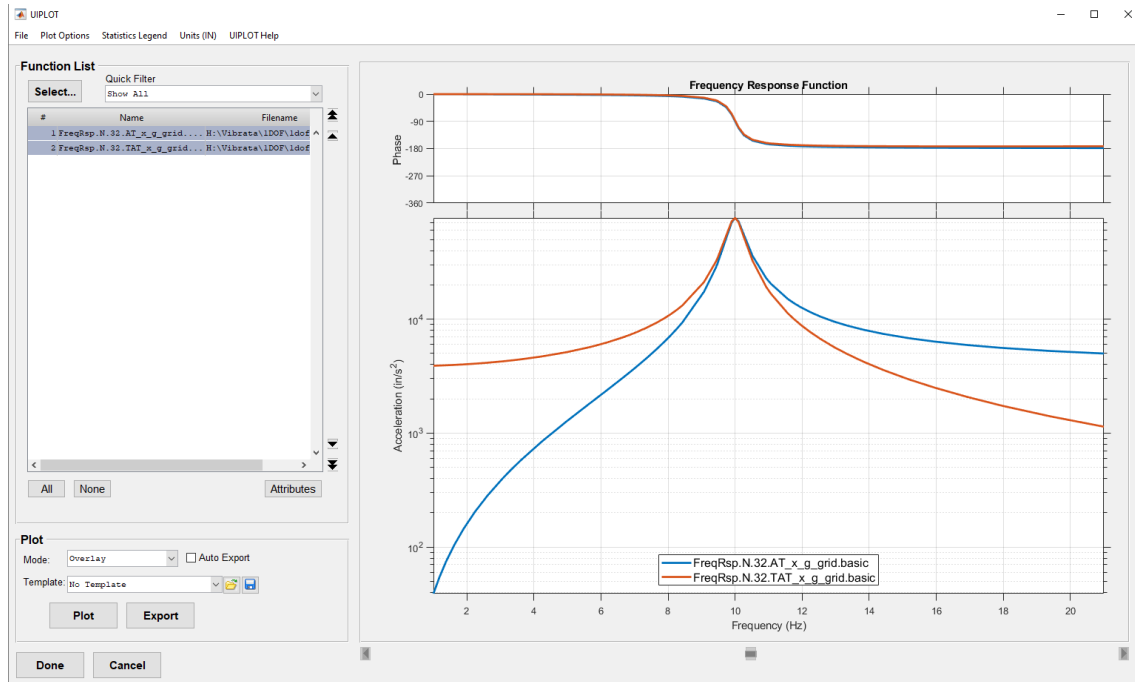

Figure 4-17. Select and plot both requested acceleration responses at once.
- c. In the *UIPLOT* dialog, select both functions and click **Plot** to display the results (Figure 4-17). Notice the dynamic amplification and phase change of the responses at the natural frequency.